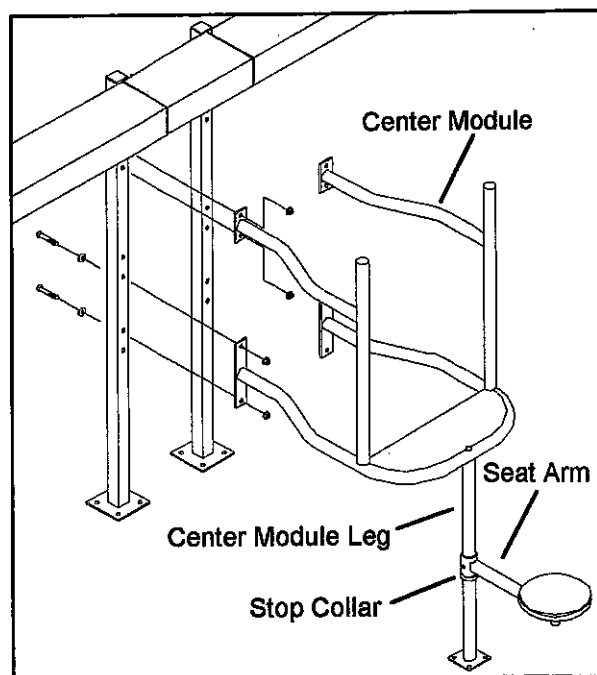

Figure 4
- Step 1 Slide a stop collar and seat arm over the end of a center module leg as shown in figure 4.
- Step 2 Bolt the center module leg to the center module using a 1/2" x 3" hex head bolt and 1/2" lock washer as in figure 4.